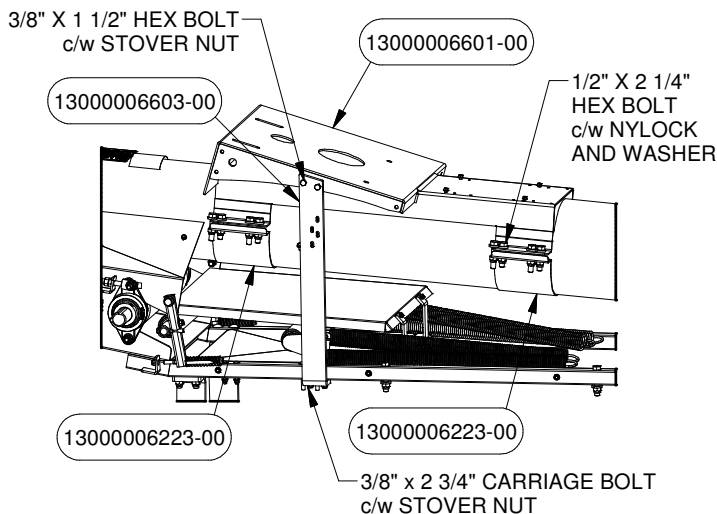

FIGURE 1
1. Attach the Motor Mount PN# 6601 and Clamps PN# 6223 using Hex Bolts c/w Nylock Nuts and Washers to the Intake. See Figure 1 for details. Take note that the Motor Mount should be right against the Bottom Return.
To secure the Motor Mount in place, attach the Motor Mount Brace PN# 6603 as shown in Figure 1 using fasteners from Bolt Bag PN# 6951 in Hardware Box PN# 7044.